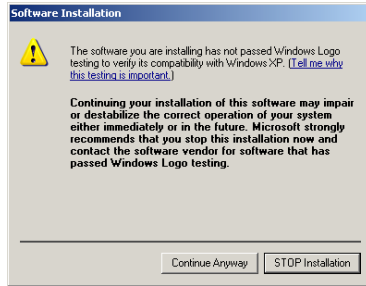

Figure D.10: Windows Logo Compatibility Testing
- 8) On the Dialog for Windows Logo Compatibility Testing, click “Continue Anyway” (Figure D.10).